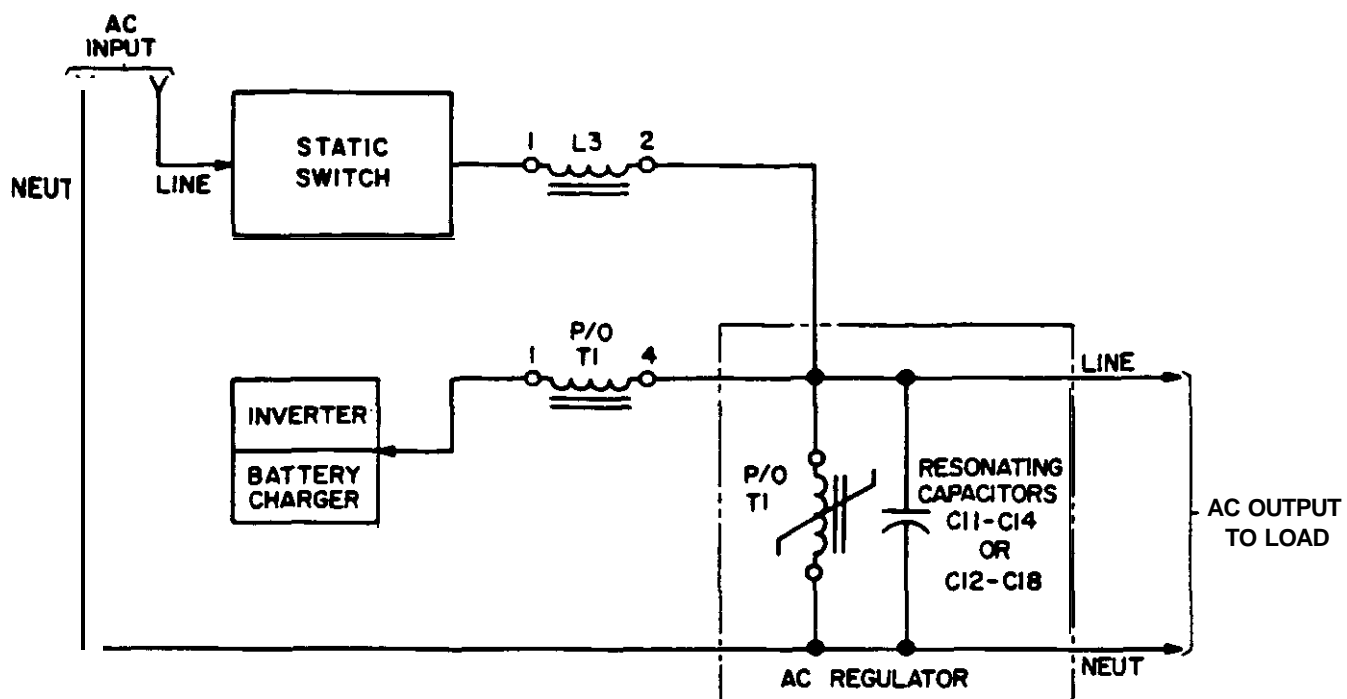

Figure 5-2. Simplified Schematic Diagram: AC Regulator
5.04 AC Regulator. A simplified schematic diagram of the UPS AC regulator circuit is shown in Figure 5-2. Transformer T1 is represented as a saturable reactor, and the I-4 winding of T1 is shown as a series inductance. Under normal conditions, commercial AC power is applied to the AC regulator circuit through the static switch and inductor L3. The regulator circuit, comprising ferro-resonant transformer T1 and associated resonating capacitors, essentially forms a tank circuit resonant at 60 Hz. A substantial amount of energy circulates in the tank circuit, and a portion of this energy is used to supply the load. Circulating energy is sufficient to compensate for line voltages slightly lower or higher than nominal voltage of 117 VAC; therefore, the AC output made available to the load is relatively constant.